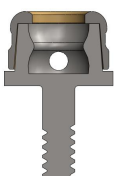

Fig. 3
5. The bonded Locator Retrofit Female as seen in this section view (Fig. 3) should be tightly seated on the top of the ERA. Note the small gap at the bottom of the